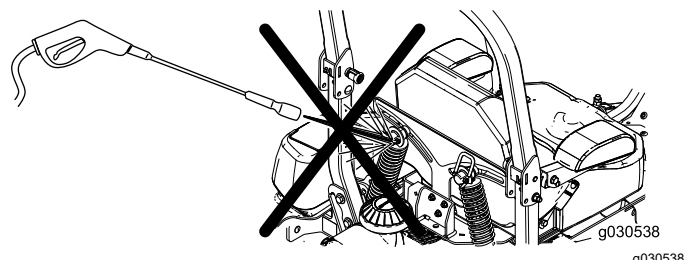

Figure 99
**Note:** Do not clean the shock assemblies with pressurized water (Figure 99).